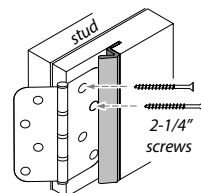

Figure 8
- Replace two of the top hinge screws with 2 1/4" screws (figure 8). Screws must penetrate actual stud to ensure door does not sag.